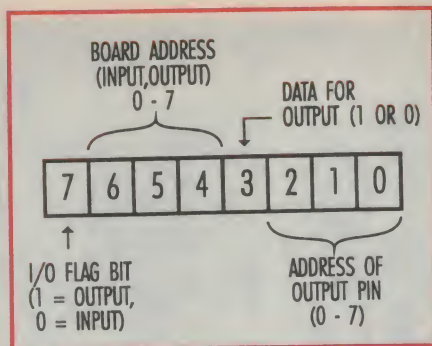

Fig.1: The format for the command bytes used by the computer to control the interface functions.
Fig.1 shows the command byte format to which the interface is designed to respond. As you can see, all eight bits are used. These are split into four separate functional groups — two groups of three and two single bits. Of these, bit 7 the most significant bit is used to 'flag' whether the byte is requesting the interface to perform an output (1) or input (0) operation.